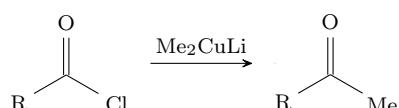

Figure 4.52: Monoaddition to acid chlorides with dimethylcopper lithium.
- Cuprates take acyl chlorides to ketones (Figure 4.52).